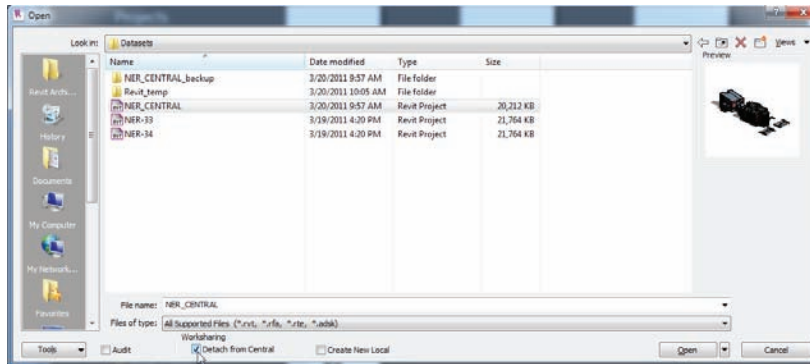

FIGURE 22.18 Detaching from Central
4. Instead of selecting Create New Local, click Detach From Central as shown in Figure 22.18.